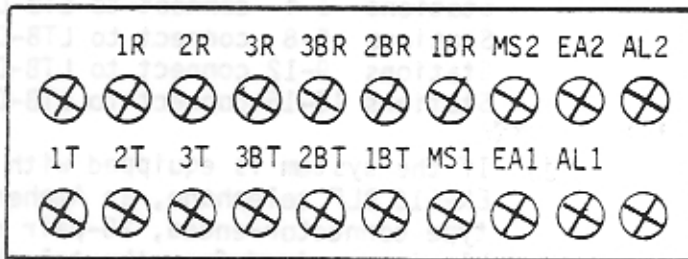

FIGURE 4A - LTB-A TERMINAL LAYOUT
- a) Check the LTB-A (figure 4A) line cord connections. The LTB-A provides the inputs for 3 C.O. lines to the system. Two modular plug-ended line cords are factory-wired to the LTB-A for connecting the C.O. lines into the system.
6.38 The external paging amplifier is connected to the EA1/EA2 terminals on the LTB-A line terminal board (see paragraph 6.21c and figure 4A). It is recommended that shielded cable be used for connecting the KSU to the external paging system. The shield should be grounded at the external amplifier.